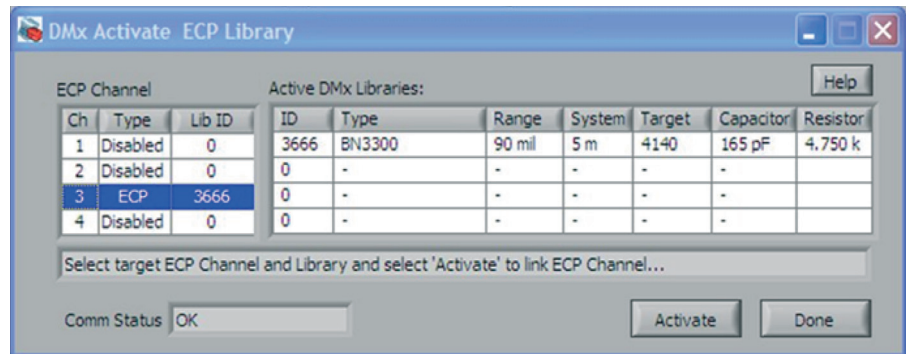

Fig. 10. DMx Activate ECP Library dialog.
- 1 The channel is configured for a direct ECP and the relevant library is loaded to the SKF Multilog DMx and linked (activated) to that channel: **ECP Tools** tab, **Link Library to Channel** (→ fig. 10).